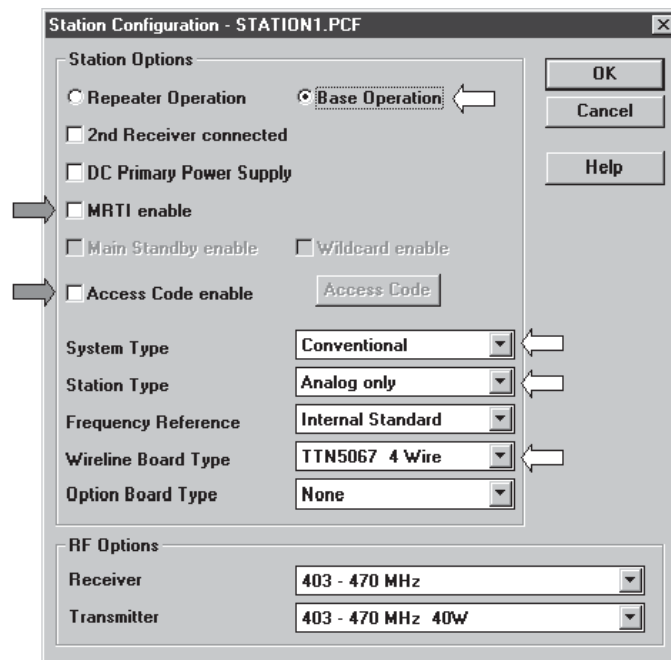

Fig. 1
2. From the *Station Configuration* window, click on the **Edit Config** button. The Station Configuration window will appear. (Fig. 1)